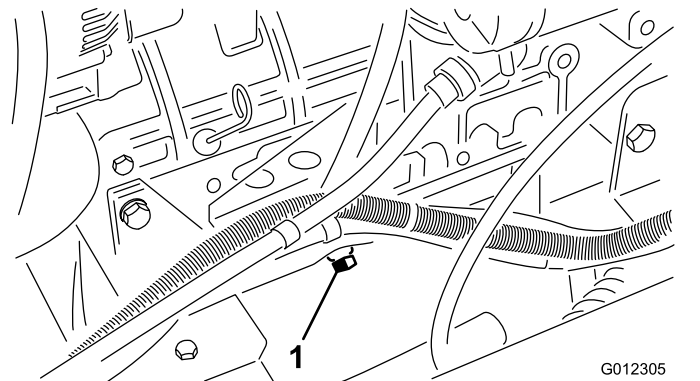

Figure 38
1. Remove the drain plug (Figure 38) and let the oil flow into a drain pan.